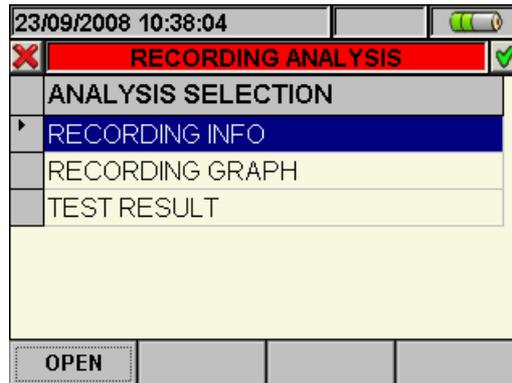

Fig. 172: Recording analysis (RegPV*-type data)
2. Press the **ESC** key (or the smart icon ) to exit the function and go back to the “Recording analysis” page (Fig. 172).
Press the **ESC** key (or the smart icon on the display) to exit the function and go back to the "Recording analysis" page (Fig. 172).
2. Press the **ESC** key (or the smart icon) to exit the function and go back to the “Recording Analysis” page (Fig. 172).